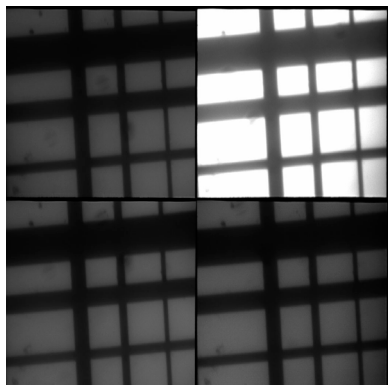

Figure 14. Correct positioning of upper right image.
7. Using the U/D and R/L knobs associated with the *upper right image*, move the image so that its top edge is aligned with the top edge of the CCD and its right edge is aligned with the right edge of the CCD (**Figure 14**).